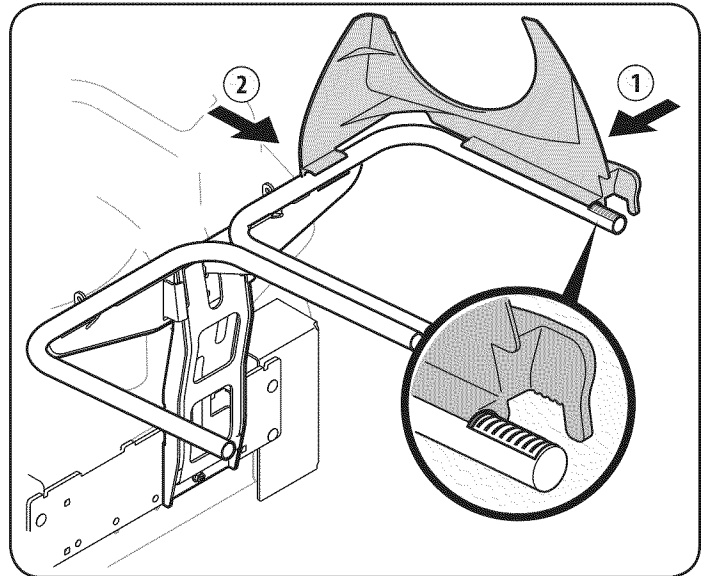
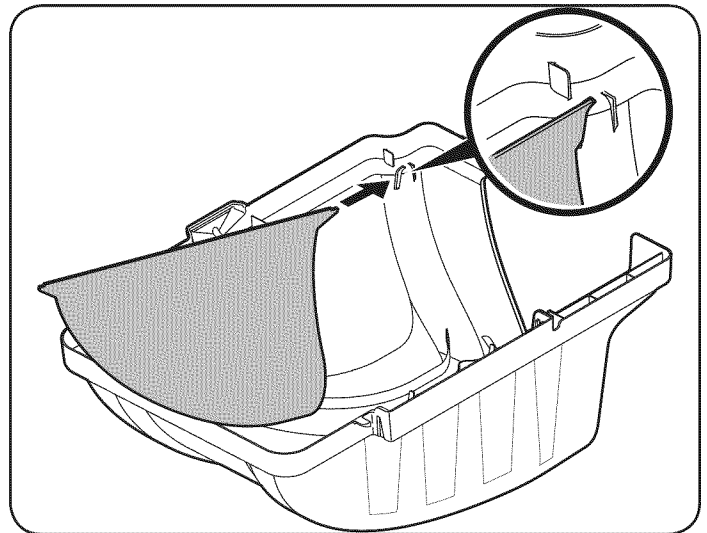

Figure 6
Figure 7
9. If not already installed by the factory, install the bagger screen into the bagger cover by first inserting one end into the corresponding cutout mounting hole, as in Figure 6. Make sure to feed the screen under the lip, as in Figure 7.